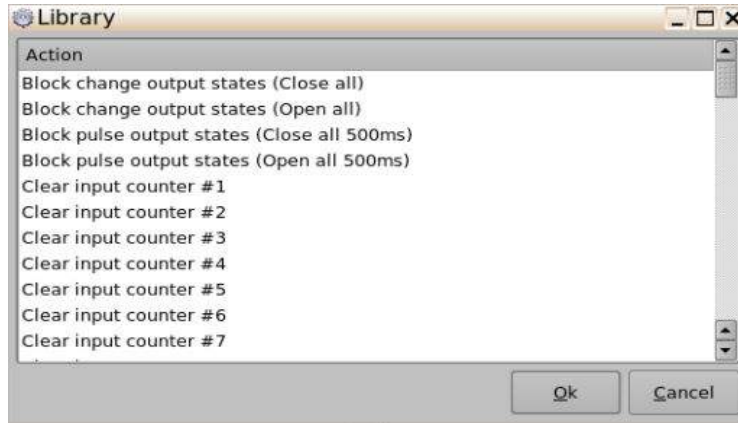

Figure 26: Library Action Window – Jnior w/Expansion Modules
- The user can select the actions to manage Jnior products on the Library window (Figure 26).